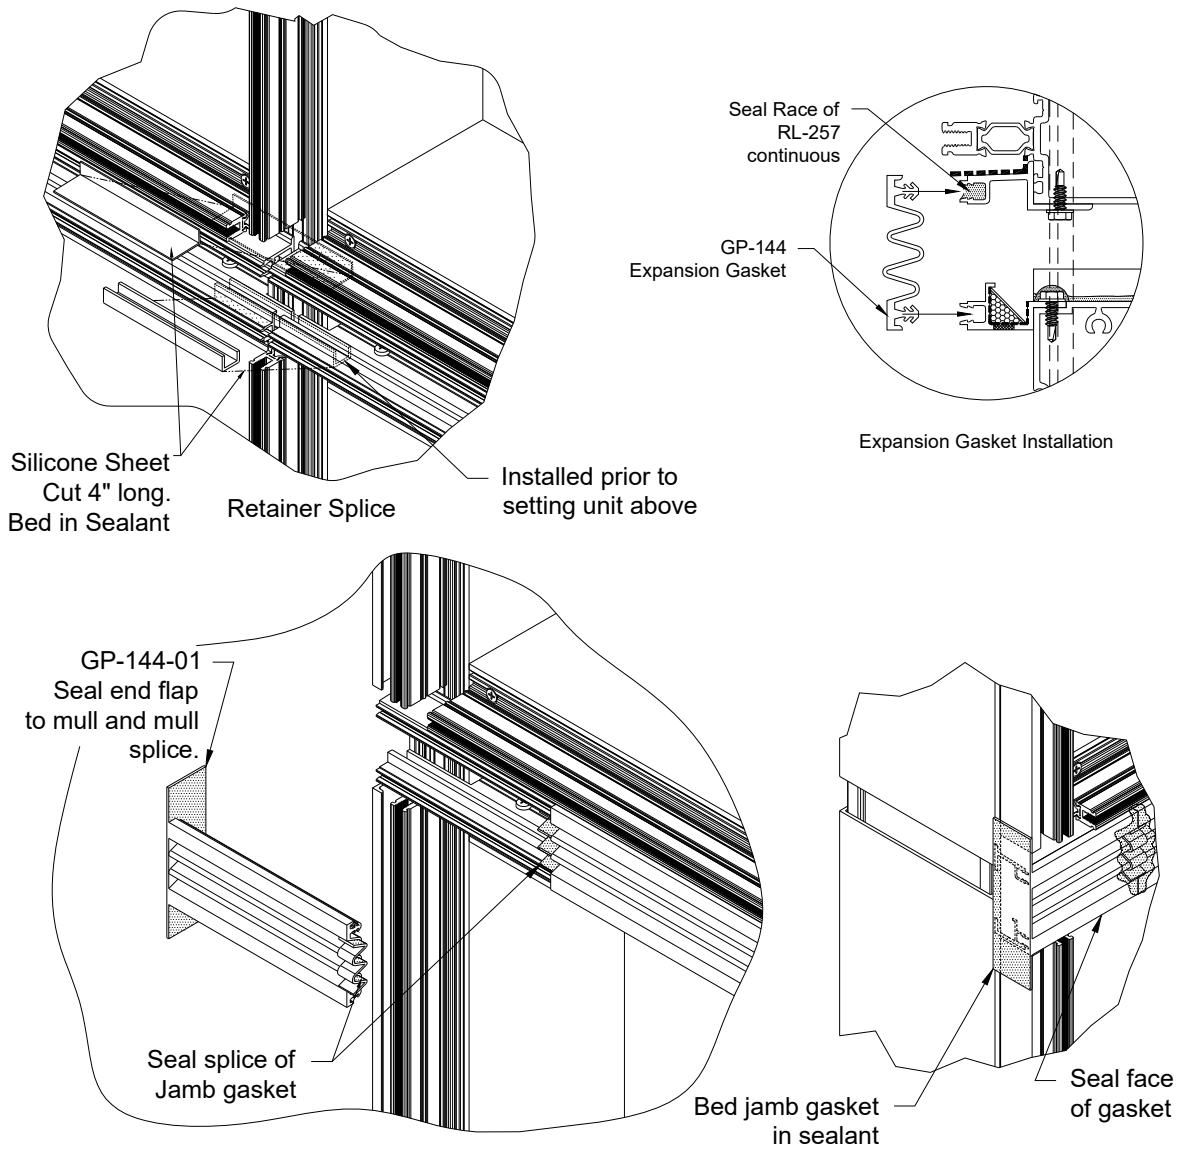

Figure 52: Expansion Horizontal Sealing
- 16.7 After lower framing is installed, install 4" long strips of Silicone Sheet to **WW-258** Retainers at center line of each Vertical. Bed sheet in sealant and tool to form a splice connection, as shown in *Figure 52*.
- 16.10 After framing is installed, install 4" long strips of Silicone Sheet to **RL-257** Retainers at center line of each Vertical. Bed Sheet in sealant and tool to form a splice connection. Install Silicone Sheet and sealant at **WW-258** in lower unit prior to installing unit above. See *Figure 52*.
- 16.11 Fill gasket race of **RL-257** with continuous bead of sealant and insert **GP-144** Gasket into races for **RL-257** and **WW-258**. Leave ends of Gasket loose at jambs or corners and set once molded jamb or corner gaskets are installed. See *Figure 52*.
- 16.12 Install **GP-144-01** Jamb Sleeve (corner gasket similar) by sealing the **RL-257** gasket race, sealing end flap and installing onto mullion and mull splice. Once in place, run bead of sealant across splice section of jamb gasket. Install **GP-144** Gasket over jamb splice and then run exterior bead of sealant over splice area to create watertight seal. See *Figure 52*.